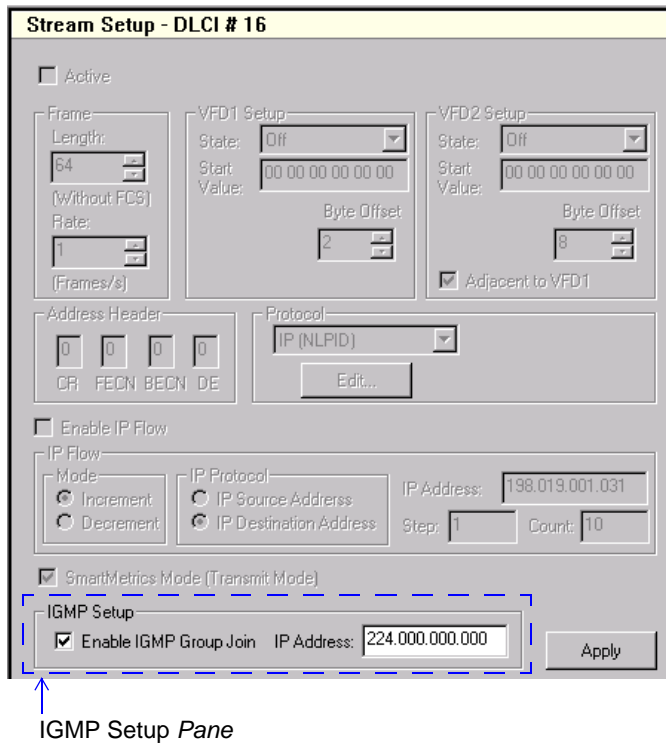

Figure 9-12. Stream Setup Window and IGMP Setup Pane
- 3 Click a stream in the navigation tree to open the *Stream Setup* window (*Figure 9-12 on page 518*).
- 1 Select the **Enable IGMP Group Join** checkbox in the *IGMP Setup* pane (Figure 9-12).